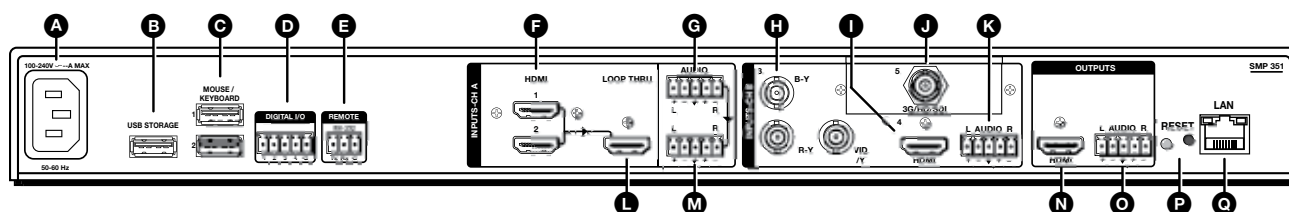
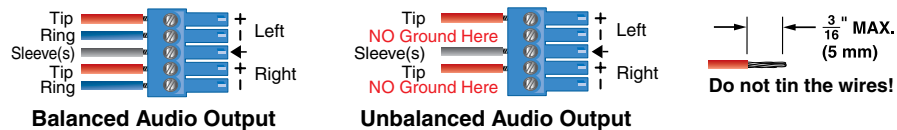
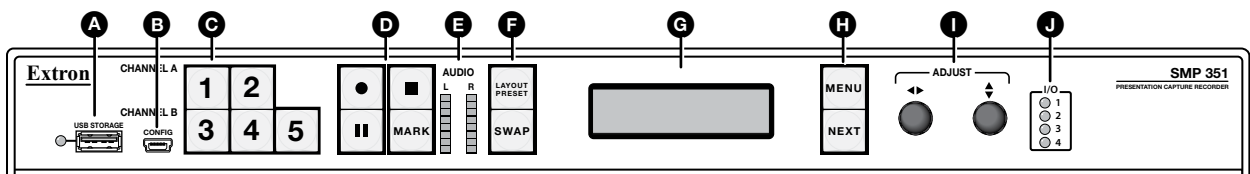

Figure 3. SMP 351 Rear Panel (SMP 351 3G-SDI shown)
Figure 5. Audio Output Captive Screw Connector Wiring
Figure 8. SMP 351 Front Panel
- M Audio loop output** – Connect a balanced or unbalanced stereo line level audio device to this 5-pole, 3.5 mm captive screw connector (see figure 3, **M** on page 12). Wire the connector as shown in figure 5. Audio is always from audio input **G**.
- G Analog Audio output** – Connect a balanced or unbalanced stereo line level audio device to this 5-pole 3.5 mm captive screw connector (see figure 5) for select audio output. Wire the connector as shown in figure 5.
The SMP 351 can be configured and controlled from the Remote RS-232 port (see figure 3, **E** on page 12) or the front panel USB mini-B Config port (see figure 8, **B** on page 18) using SIS commands and DataViewer via Telnet port 23. A standard Web browser can be used for control and configuration from the LAN port. Because the LAN port must be connected for streaming output, Extron recommends using it for configuration, remote control, and firmware upgrades.
- C USB keyboard and mouse** – Connect a keyboard and mouse to the two USB type A ports. With a keyboard and mouse connected, the user can toggle <CTL+ALT+S> the HDMI output (see figure 3, **N**) between the standard preview output and the internal browser view.
- E Remote** — To control the SMP 351 using SIS commands over RS-232, connect the host RS-232 cable to the rear panel (see figure 3, **E** on page 12) with a 3-pole captive screw connector for bi-directional (± 5 V) serial host control. The default protocol for this port is as follows:
The Reset button on the rear panel of the SMP 351 (see figure 3 on page 12) returns the SMP 351 to various modes of operation. To select different reset modes, use a pointed stylus or small screwdriver to press and hold the **Reset** button while the SMP 351 is powered or press and hold the **Reset** button while applying power to the SMP 351.